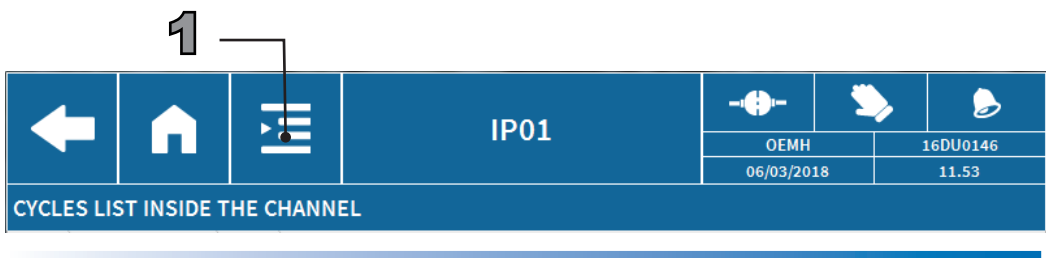

Fig.128. Icon for selecting sets from the available list
Use the icon (1) Fig.128 on the **List of Sets** dashboard to add one of the sets available for the selected application.